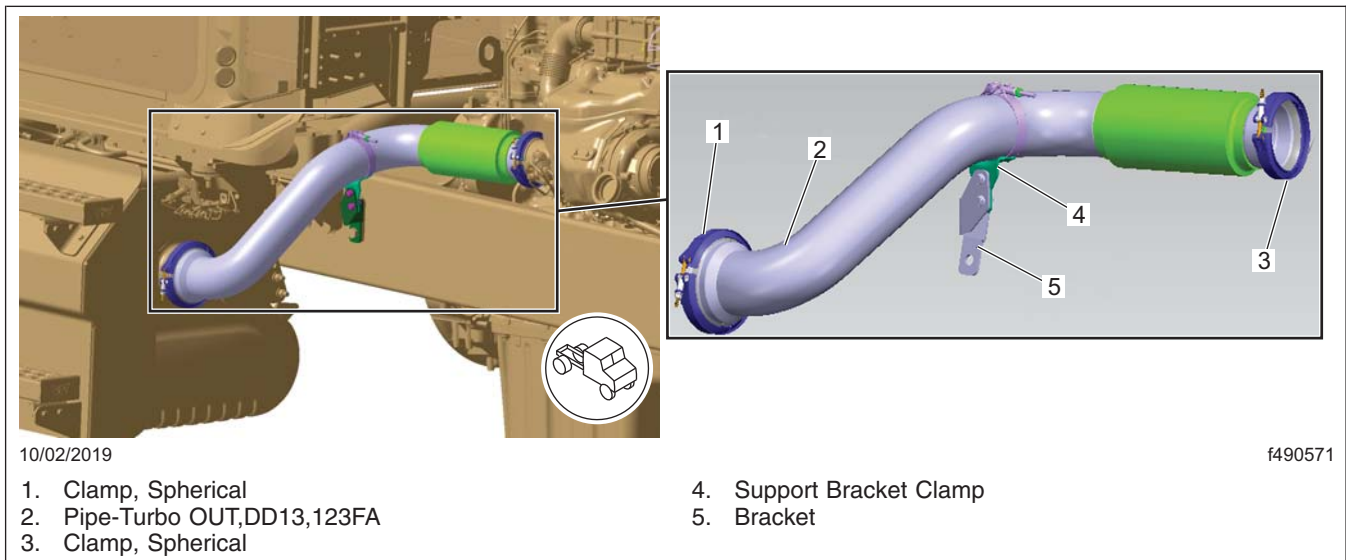

Fig. 2, Exhaust Pipe Assembly Replacement
2. Using **Fig. 2**, remove the exhaust pipe, and support bracket between the turbo outlet and Aftertreatment Device (ATD).
4. Remove the support bracket clamp. See **Fig. 2**, ref 4.
6. Remove the original support bracket (**Fig. 2**, ref 5) from the cab cross member bracket, and reinstall the fasteners. Tighten the fasteners 128 lbf·ft (174 N·m).